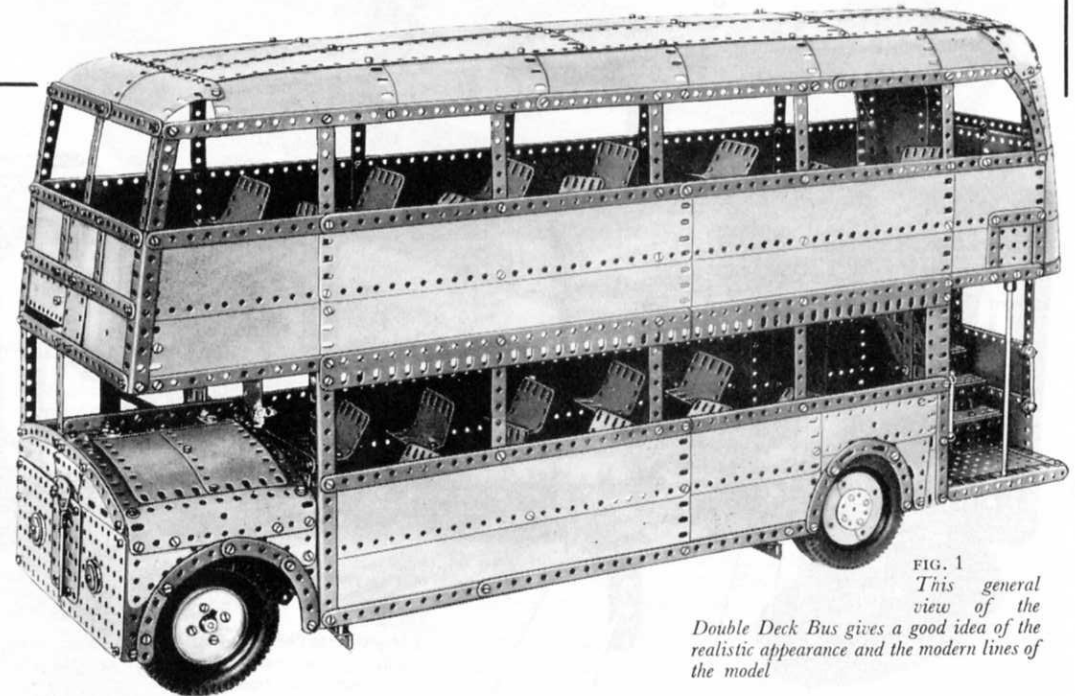
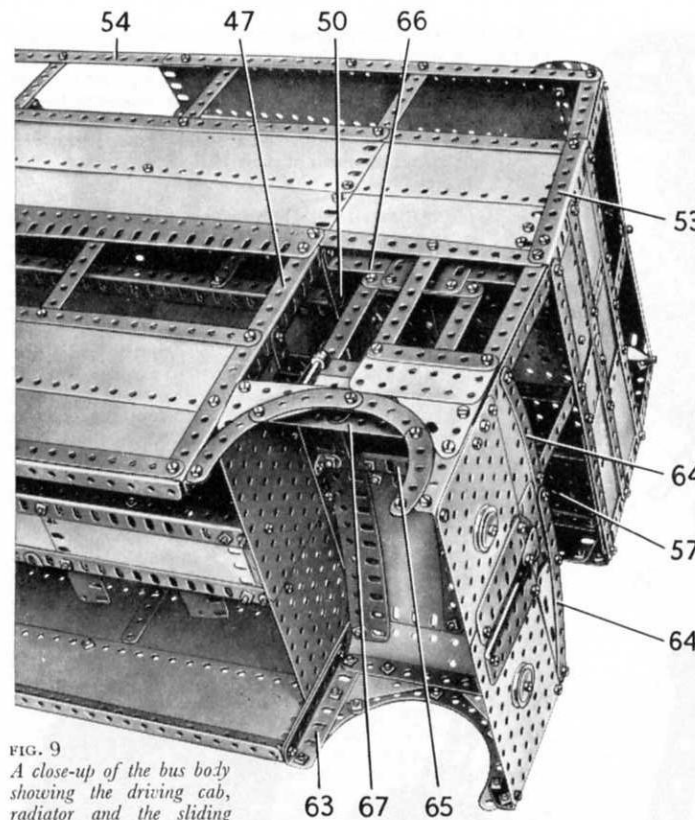

FIG. 1
FIG. 9
The main section of the side seen in Fig. 1 is similar to the one already described, but it is shorter and ends at the Girder (49); also a $2\frac{1}{2}" \times 2"$ Triangular Flexible Plate is used instead of a $2\frac{1}{2}" \times 1\frac{1}{2}"$ Triangular Flexible Plate over the wheel arch. The window divisions are connected by two $12\frac{1}{2}"$ Flat Girders overlapped four holes.
The other side, which is seen in Fig. 1, is similar in general arrangement to the one already described, but it varies in slight details. The top edges of the Plates are strengthened by two $12\frac{1}{2}"$ Strips, a $5\frac{1}{2}"$ Strip and a 3" Strip, and the lower $4\frac{1}{2}" \times 2\frac{1}{2}"$ Flexible Plate at the rear is replaced by a $2\frac{1}{2}" \times 2\frac{1}{2}"$ Flexible Plate and a $2\frac{1}{2}" \times 2\frac{1}{2}"$ Flat Plate. The Flat Plate is edged by $2\frac{1}{2}"$ Strips, but is spaced from them by nuts on the bolts to represent a recessed destination indicator.
The assembly of this part of the model is shown clearly in Figs. 1, 8 and 10.
The side of the bonnet (Fig. 1) is a $5\frac{1}{2}$ " \times $1\frac{1}{2}$ " Flexible Plate curved lengthways and bolted to a 3" Angle Girder (63) (Fig. 9). A $2\frac{1}{2}$ " \times $1\frac{1}{2}$ " Triangular Flexible Plate and a $2\frac{1}{2}$ " \times 2" Triangular Flexible Plate cover the near-side wheel arch. The front of the bonnet is made from two $5\frac{1}{2}$ " \times $3\frac{1}{2}$ " Flat Plates overlapped three holes and bolted to 3" Angle Girders, which are attached to the sides of the cab and bonnet. The Flat Plates are extended upward by a $5\frac{1}{2}$ " \times $1\frac{1}{2}$ " and a $2\frac{1}{2}$ " \times $1\frac{1}{2}$ " Flexible Plate overlapped four holes, and by a $3\frac{1}{2}$ " \times $1\frac{1}{2}$ " Triangular Flexible Plate. The tops of these Plates are edged by two $5\frac{1}{2}$ " Curved Strips (64).
The sliding door consists of two $3\frac{1}{2}$ " Strips joined by a 3" Strip and a 3 " \times $1\frac{1}{2}$ " Flat Plate. A $5\frac{1}{2}$ " \times $\frac{1}{2}$ " Double Angle Strip (66) is arranged as shown in Fig. 9, and a $5\frac{1}{2}$ " Strip (67) is supported at each end by an Angle Bracket. A Fishplate bolted to the Flat Plate of the door slides between the Strip (67) and the edge of the Girder (62). A 2" Flat Girder is bolted to each side of the 3" Strip of the door, but one of them is spaced from the Strip by a 2" Strip. The Flat Girders slide freely on either side of the Double Angle Strip (66).